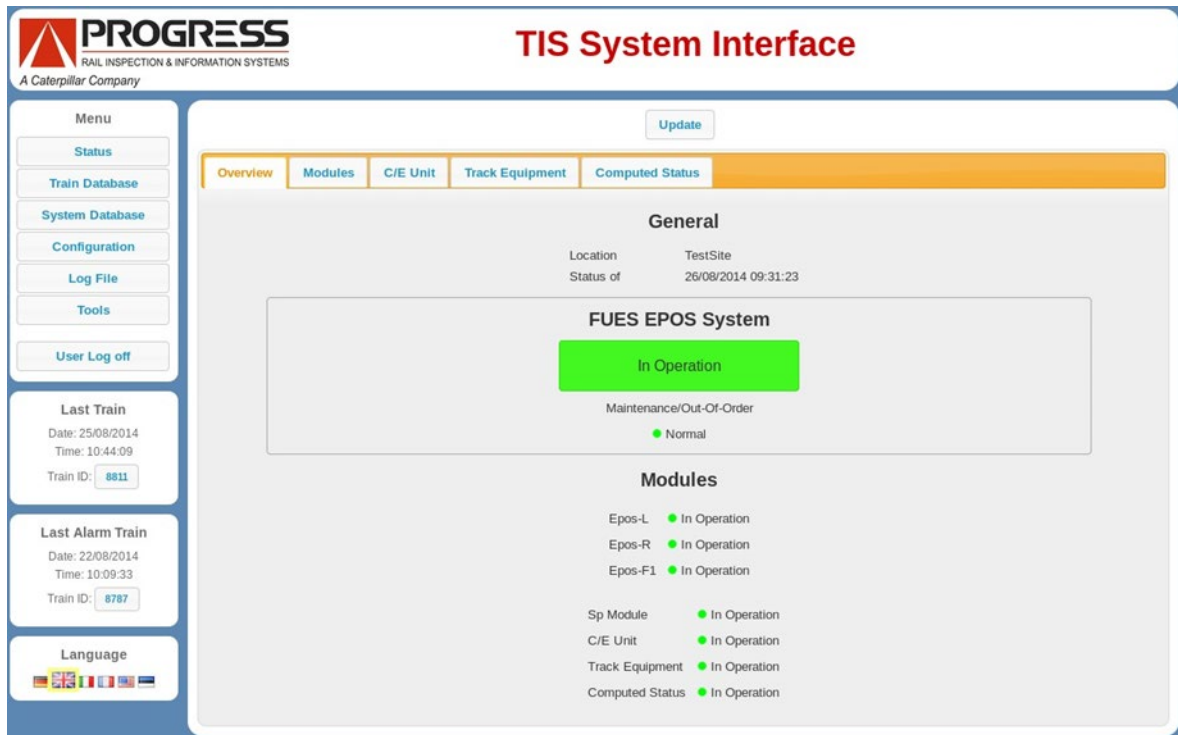

Figure 3 - FUES-EPOS user interface home page
- 1.4 Enter the name and password. The FUES-EPOS user interface home page opens Figure 3.